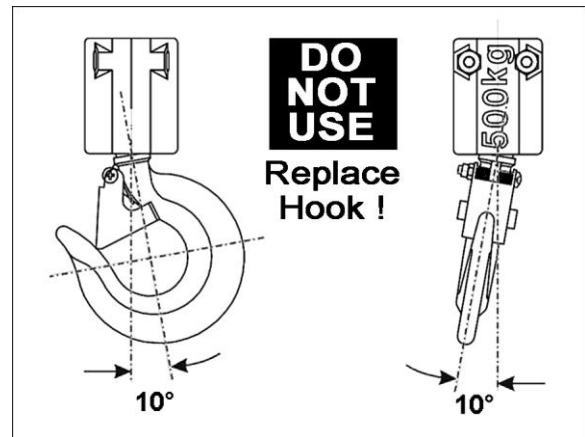

Figure 11-3
2. The vertical angle at neck of the hook reaches 10° (see Figure 11-3).